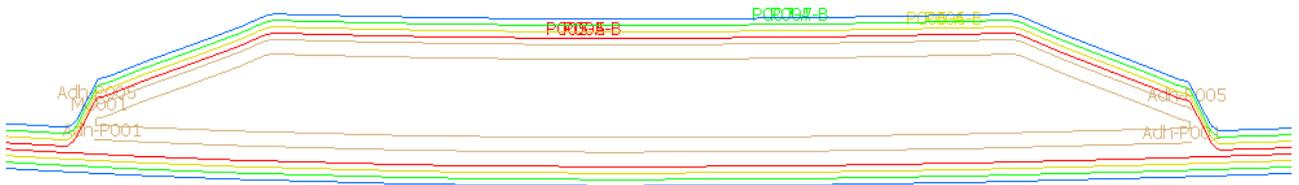

Figure P3-4
1. The cross section for Core 1 is shown in Figure P3-4.